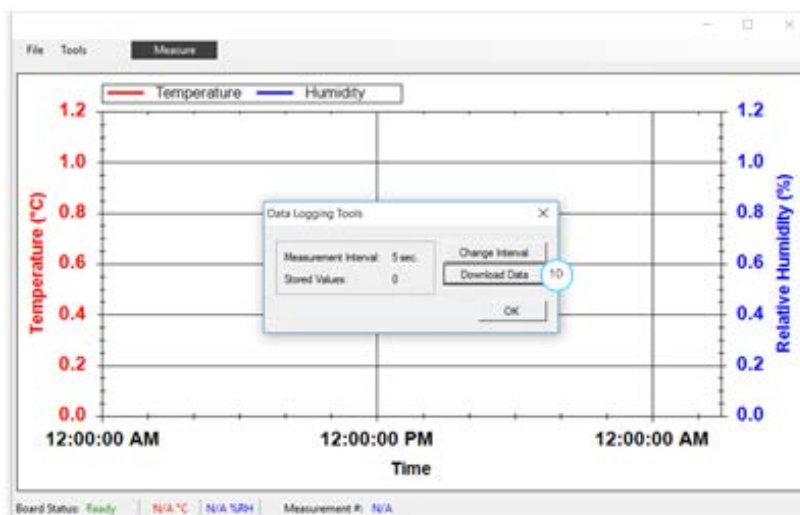

Figure 8. Download Data to Demo Software
1. To set the board to the data logging mode, put the power switch ③ in the “Batt” position.
2. To start data logging, hold the “Start/Stop Logging” button ⑦ for 3 seconds. The “Measuring” indicator ⑥ will light for 2 seconds and then start blinking on every logged measurement. This can be disabled to extend the battery life by toggling the “L2 Enable” switch ⑧.
4. To download the logged data to the Demo Software, connect the USB port ② to the computer using the supplied USB cable, and ensure that the power switch ③ on the board is in the USB position. The “USB” LED ④ will light.
5. In the software, select *Data Logging* from the *Tools* menu and click on the *Download Data* button ⑩ as shown in Figure 8. The maximum number of measurements that can be stored on the board is 2000.